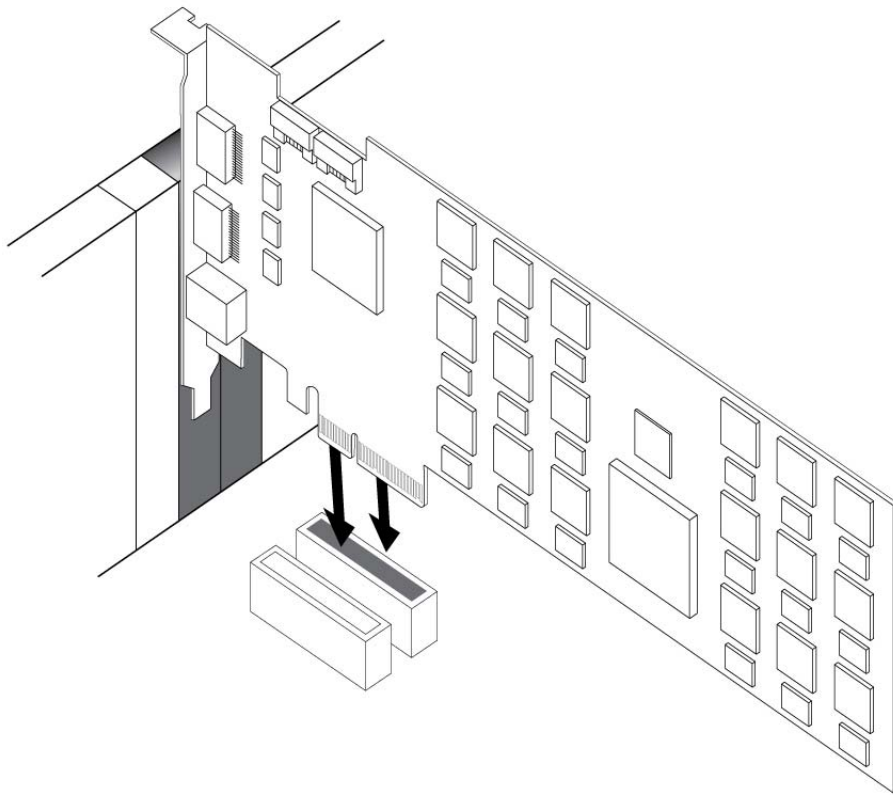

Figure 8. *Installing an HDX card in your PC*
- 6 Install the first HDX PCIe card in the recommended PCIe slot (typically this is the first PCIe slot, closest to the video card). (See Figure 8 on page 19.)